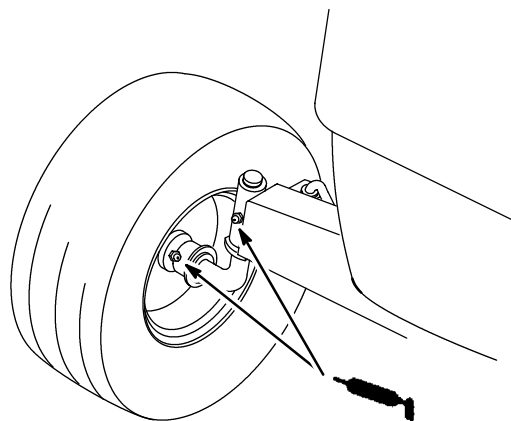

Figure 19
1. Lubricate the front wheels and steering spindles until grease begins to ooze out of the bearings (Fig. 19).